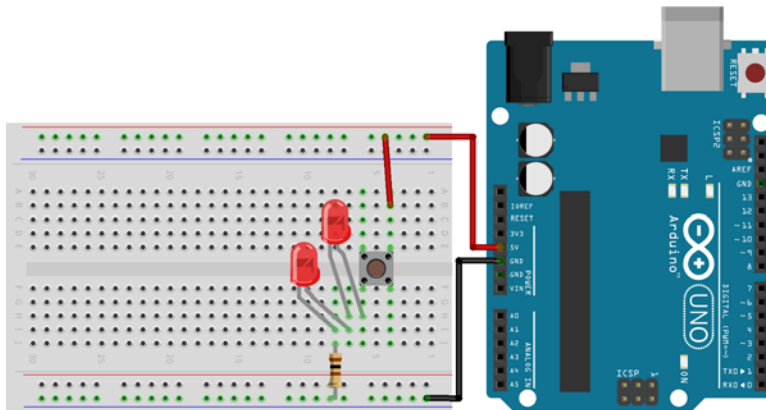

Figure 3.23 Wiring diagram of two LEDs in series
To build the circuit in figure 3.23, follow these steps:
- 3 Plug the anode of a second LED into the same row as the cathode from the first LED (row 7 in figure 3.23).